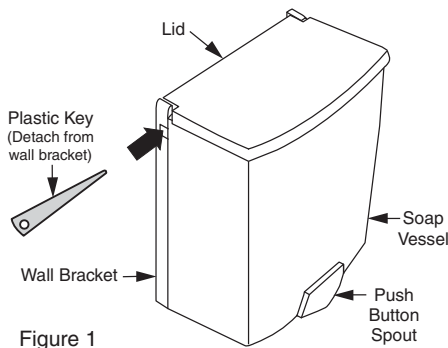

Figure 1
1. Using the plastic key, push the concealed sliding latch as shown in Figure 1. The lid will automatically pop forward.